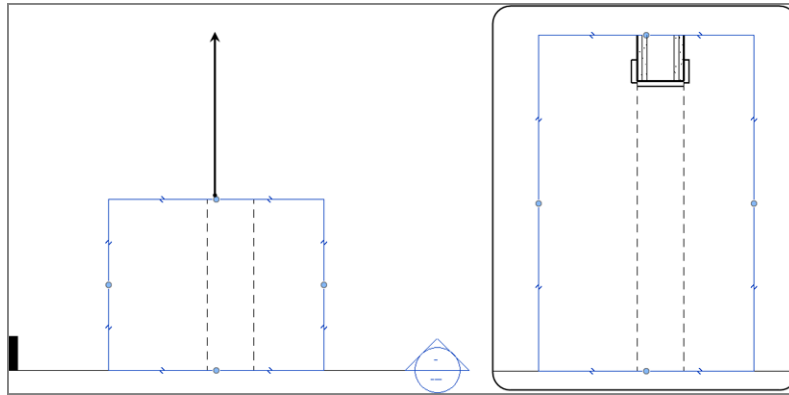

FIGURE 3.57: Stretching the crop region to view the detail
1. Select the window surrounding the detail, as shown in Figure 3.57.
2. You see four blue dot grips at the midpoint of each line. Pick the top grips, and stretch the top region up until you can see the opening jamb (see Figure 3.57).